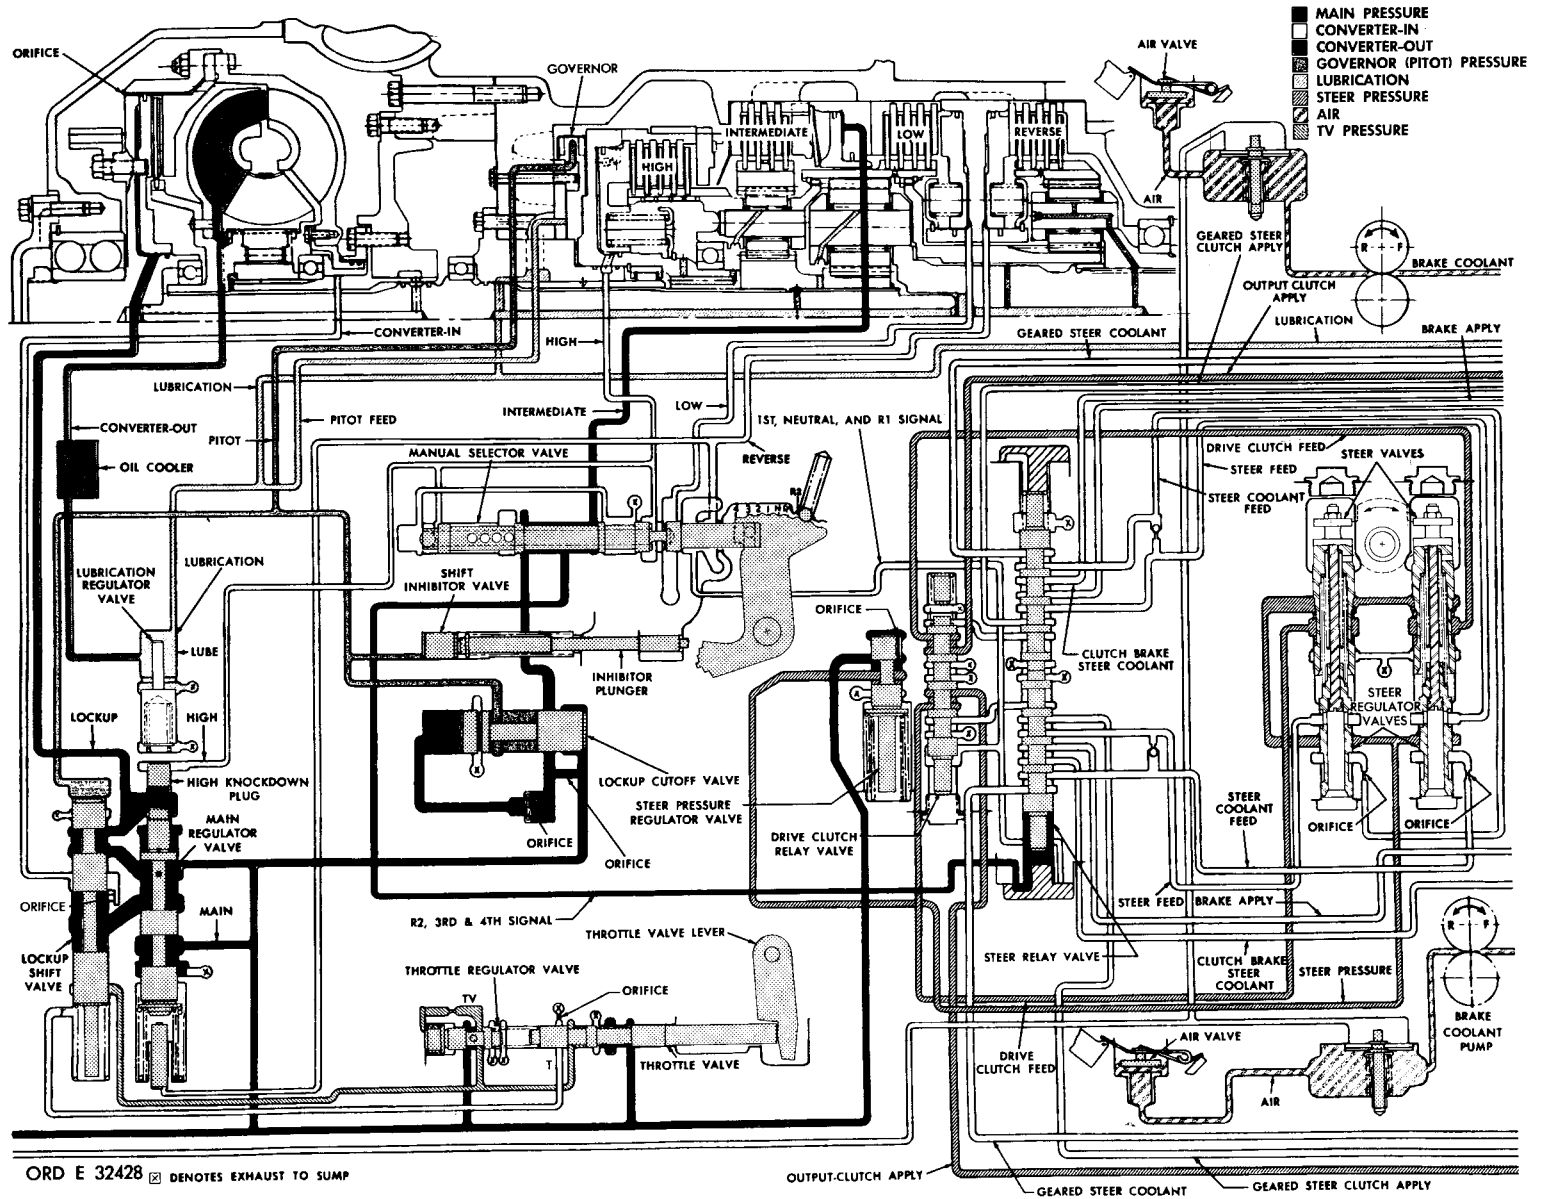

Figure 9. Hydraulic system, third gear — schematic view
33. HYDRAULIC SYSTEM FUNCTION - THIRD GEAR (fig. 9)